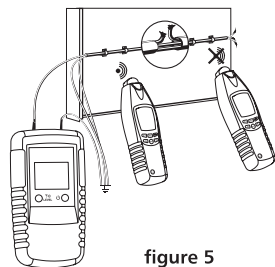
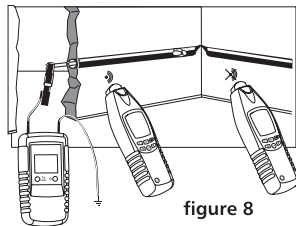

figure 5
figure 8
When locating line interruptions, the circuit must be dead. All lines that are not required must be connected to the auxiliary ground in accordance with figure 8. Connect the transmitter to one lead and to a neutral according to figure 5 and Carry out this test as described in the application example.
- All lines not being used must be connected to the auxiliary ground as shown in the figure 8.
When locating bottlenecks in installation pipes, any circuits in the pipe must be dead and grounded; Connect transmitter to the metal coil and auxiliary ground according to figure 8. Carry this out as described in the application example.